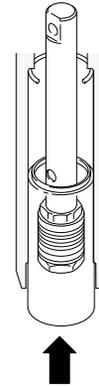

Fig. 33
- Slide the sleeve/piston rod assembly into the bottom of the cylinder. See Fig. 33.